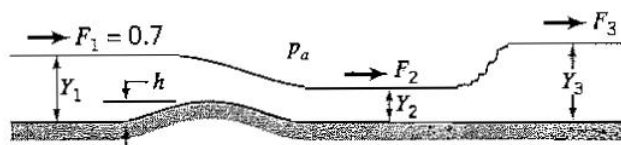

Figure P10.62
10.62 Water flows smoothly over a bump of height h in the bottom of a channel of constant width W , as shown in Figure P10.62. If the upstream depth is Y_1 , the upstream Froude number F_1 is 0.7, and $Y_1/Y_2 = 2$, find